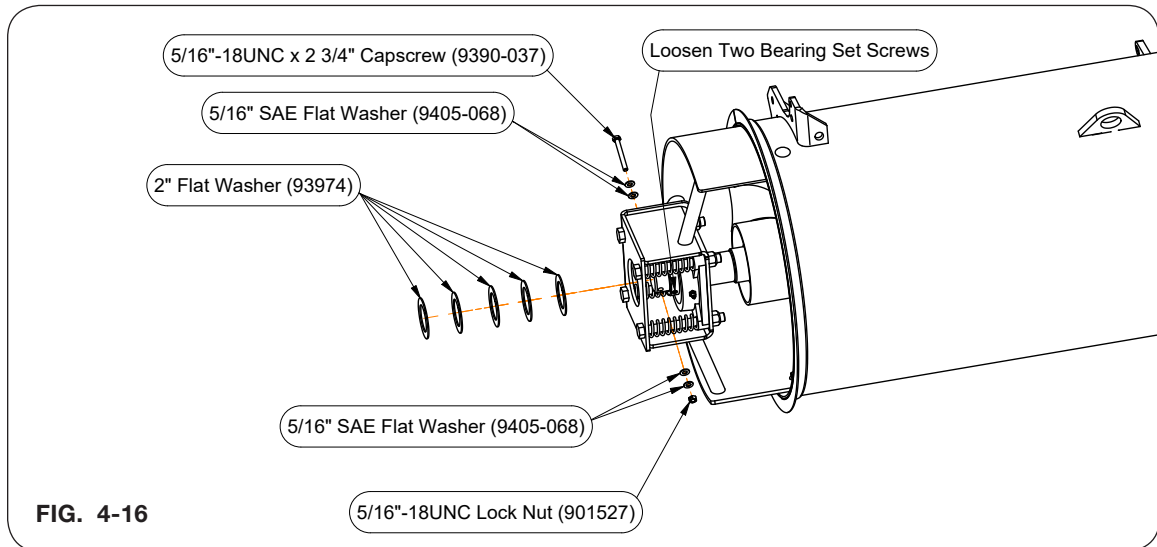

FIG. 4-16
3. Remove and save the 5/16"-18UNC x 2 3/4" capscrew (9390-037), four 5/16" SAE flat washers (9405-068), 5/16"-18UNC lock nut (901527), and 2" flat washers (93974). (FIG. 4-16)